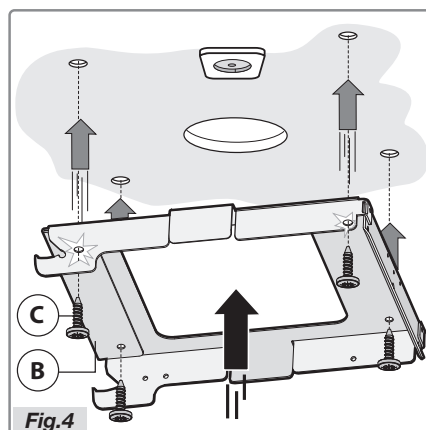

Fig.4
- Take the bracket B and secure this to the ceiling with the four screws C (Fig.4).